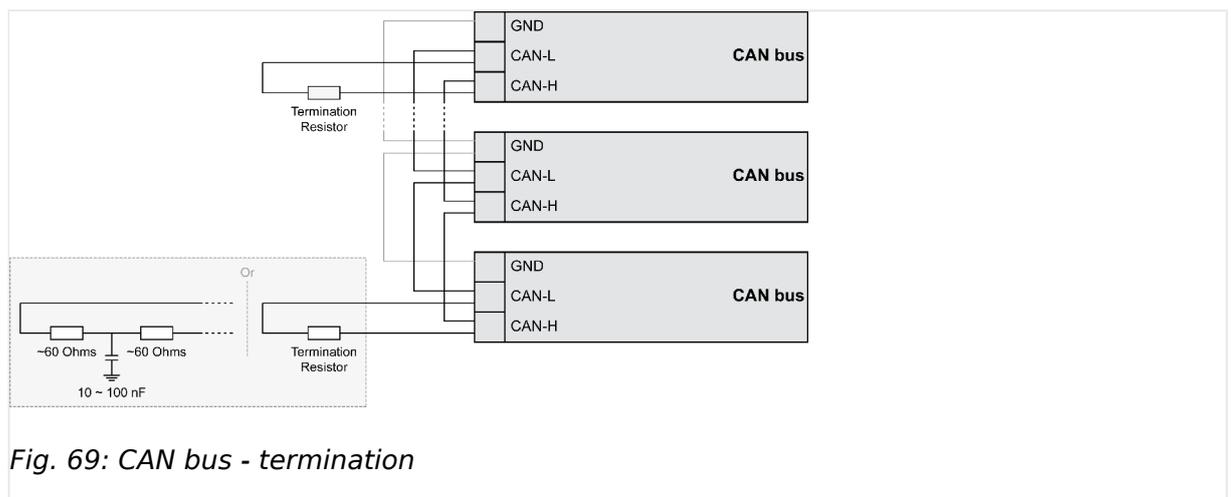

Fig. 69: CAN bus - termination
The termination resistor is connected between CAN-H and CAN-L (↳ Fig. 69).
- Divide the termination resistance into 2x60 Ohms with a center tap connected to ground via a capacitor of 10 to 100 nF (↳ Fig. 69).